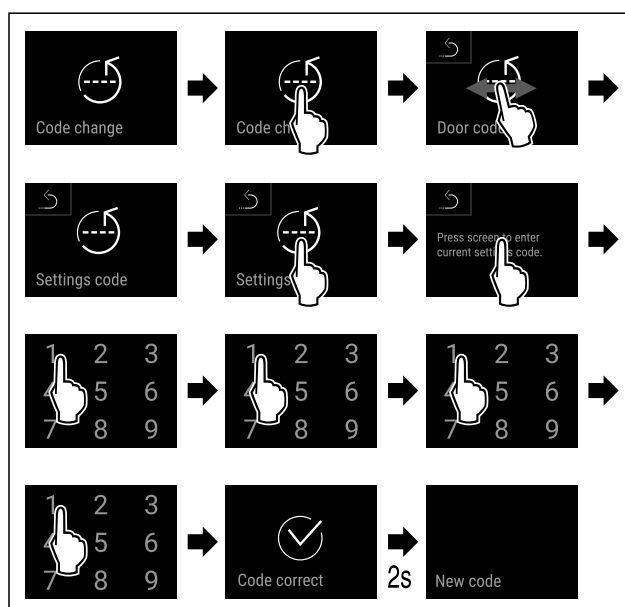

Fig. 94
- ▶ Complete steps (see Fig. 94) .
- ▶ Complete steps (see Fig. 94).